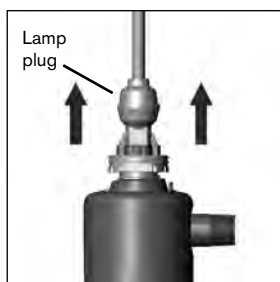

Figure 2
5. Pull the lamp plug off the lamp end (Figure 2). Do not pull on the cord when removing the plug. Note: During lamp replacement, the ground and strain relief wires of the lamp plug should remain connected to the peg on the reactor.